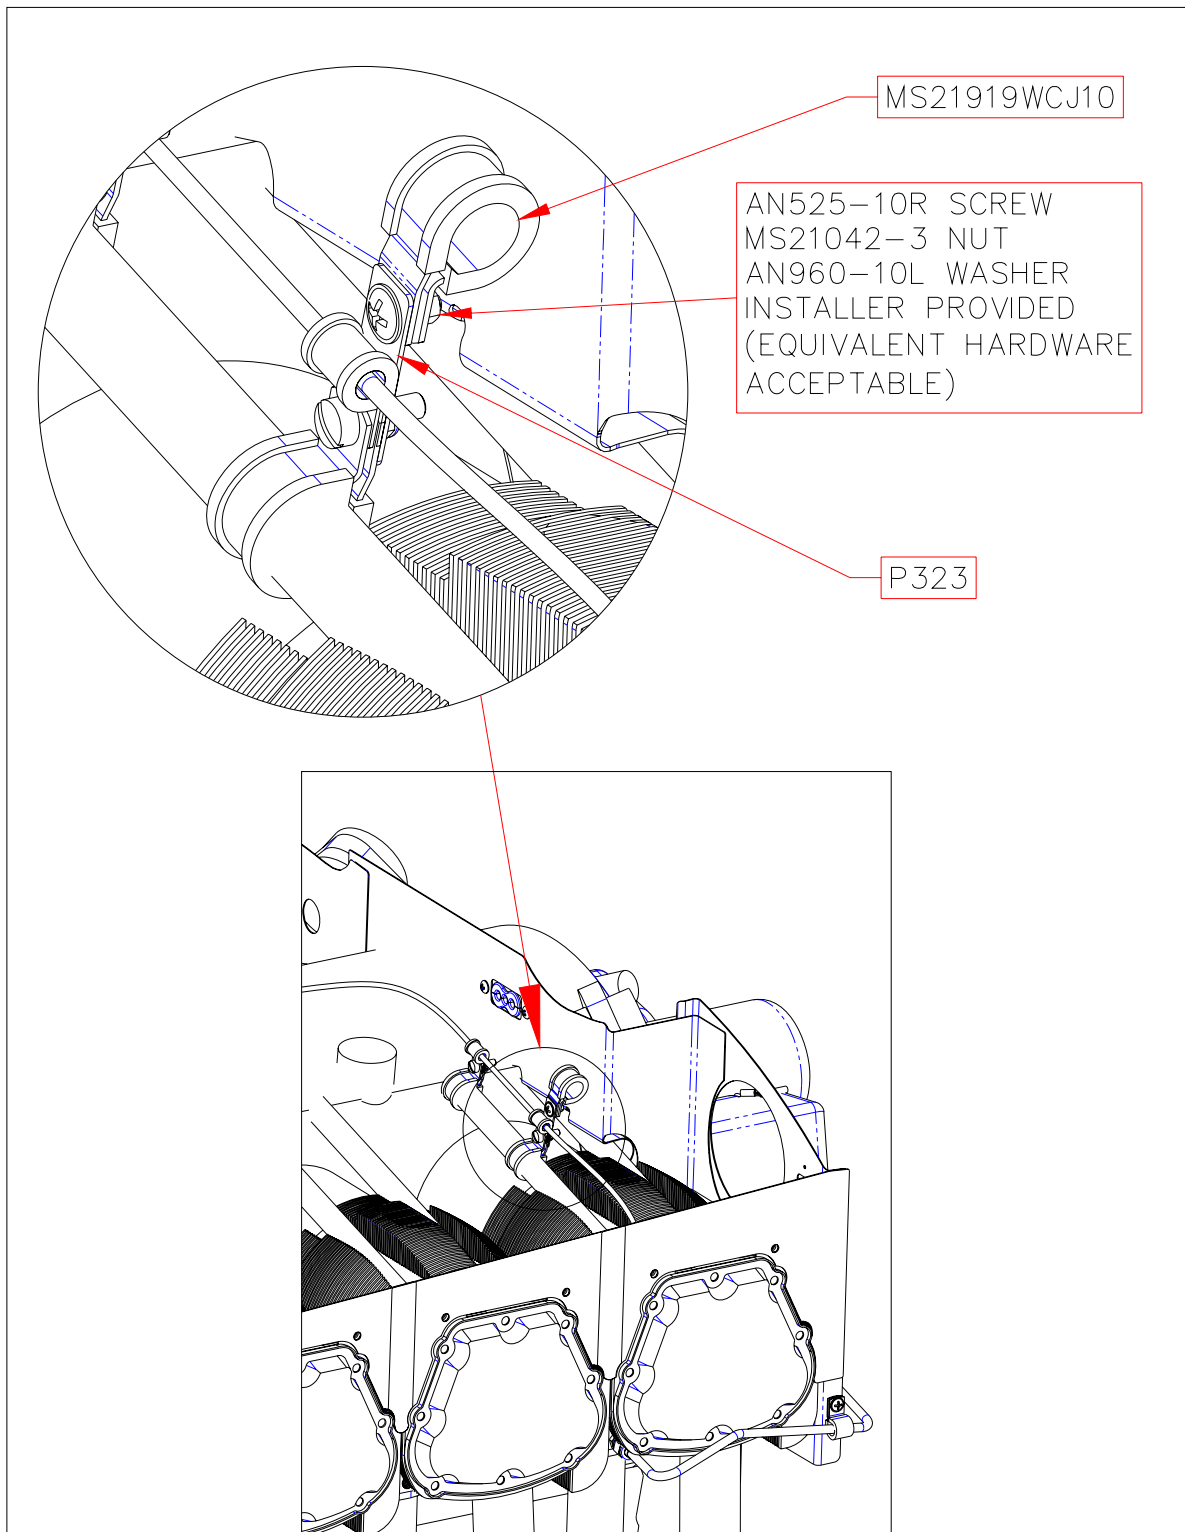

FIGURE 4 IGNITION WIRES ADEL CLAMP
6. An additional requirement to relocating the ignition wires is to install an Adel clamp, (supplied in Kit), using the P323 Standoff as indicated in Figure 4. The ignition wires may now be reinstalled thru the plastic grommet, thru the newly installed Adel clamp and back thru the previously existing clamps to their respective spark plugs.